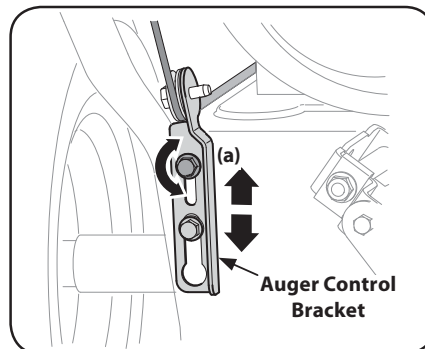

Figure 2-48
4. Allow auger to remain engaged for approximately ten (10) seconds before releasing auger control lever. Repeat this several times.
7. To readjust the auger control cable, loosen upper hex screw (a) on auger control bracket. See Figure 2-48.
8. Position bracket upward to provide more slack (or downward to increase cable tension). See Figure 2-48.